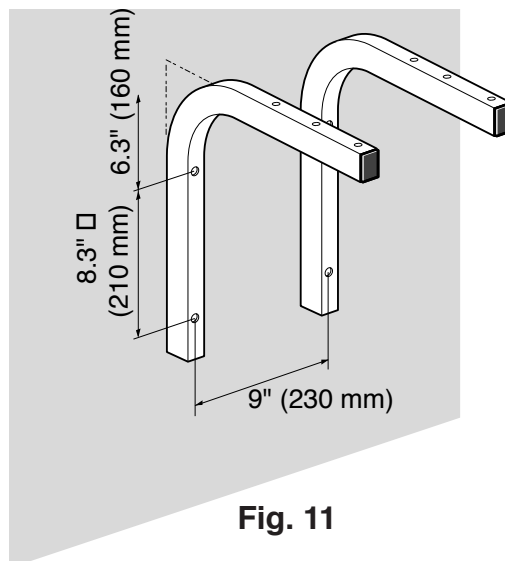

Fig. 11
Drill (5) holes (Reference Figures 11, 12, 13).
Mount the motor mounting bracket and the telescopic mounting bracket to the wall. Standard mounting height is 5 ft., 3 in. (1300 mm) from the work table to the post of the telescopic mounting bracket. Refer to Figures 11 and 12 for drilling dimensions.